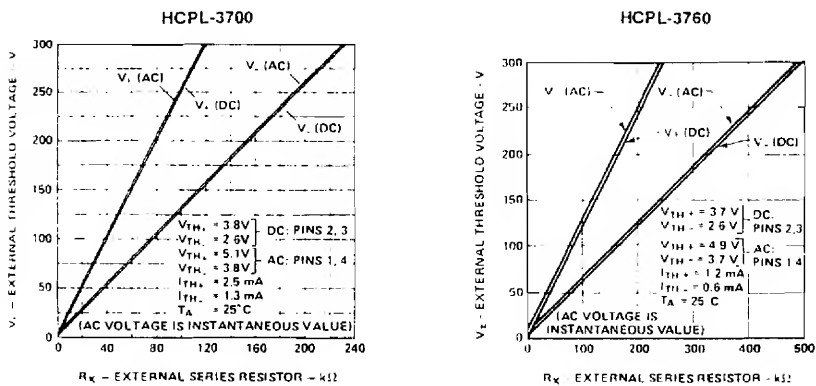
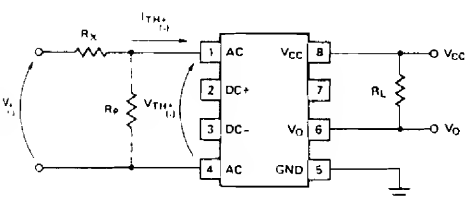

Figure 11. Typical External Threshold Characteristics, V_{\pm} vs. R_X .
Figure 12. External Threshold Voltage Level Selection.
The HCPL-3700/3760 optocouplers have internal temperature compensated, predictable voltage and current threshold points which allow selection of an external resistor, R_x , to determine larger external threshold voltage levels. For a desired external threshold voltage, V_x , a corresponding typical value of R_x can be obtained from Figure 11. Specific calculation of R_x can be obtained from Equation (1). Specification of both V_x and V_{TH} voltage threshold levels simultaneously can be obtained by the use of R_x and R_p as shown in Figure 12 and determined by Equations (2) and (3).